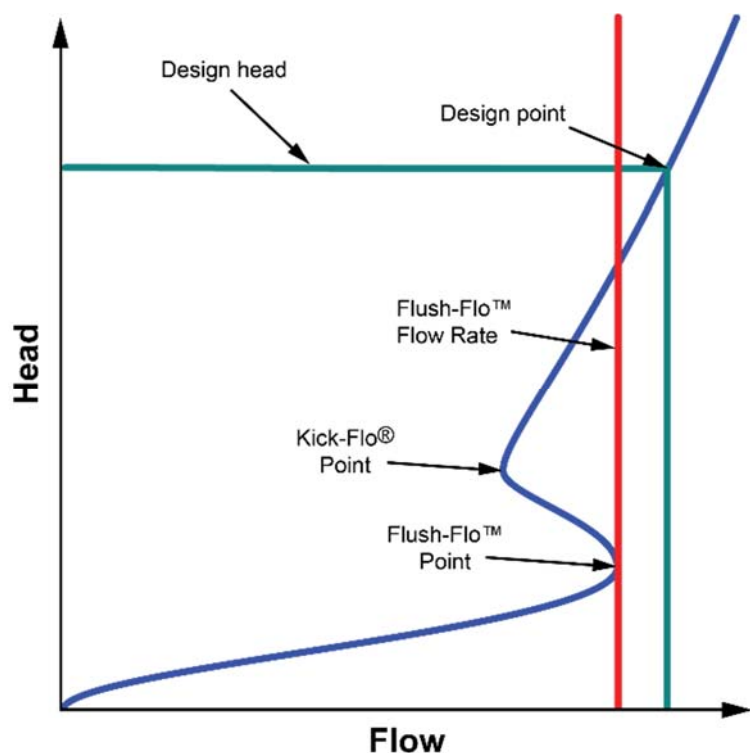

Figure 1 - Hydro-Brake® Flow Control Hydraulic Characteristics
1) Flush Flo™ – the point at which the vortex begins to initiate and have a throttling effect. A red line on the characteristic curve highlights the flow rate at the Flush-Flo™ point (see Figure 1). This point on the Hydro-Brake® curve is usually much nearer to the maximum design flow (Design Point) than other vortex flow controls leading to more water passing through the unit during the earlier stages of a storm, thus reducing the amount of water that needs to be stored upstream.